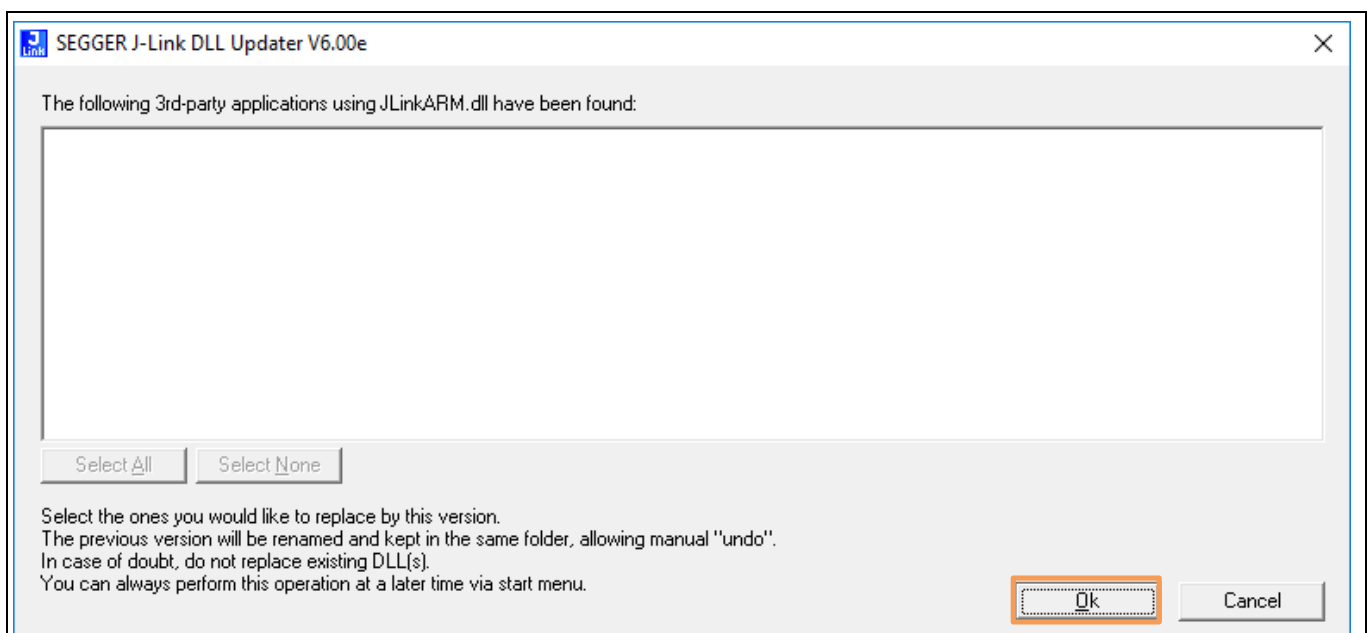

Figure 31 SEGGER JLINK Drivers – End of Installation
- Click “**Ok**” button to complete the Jlink driver installation which has shown in the below Figure 31.